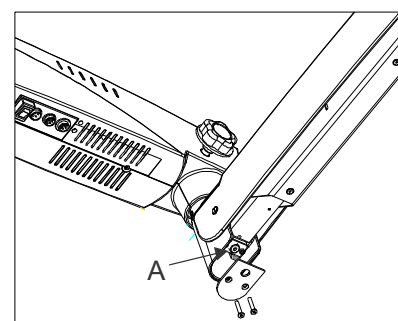

Fig. 20
3. Use hexagonal wrench of 8mm in bolt (A) shown in fig. 20 rotate it clockwise to increase desired tension on Gas spring